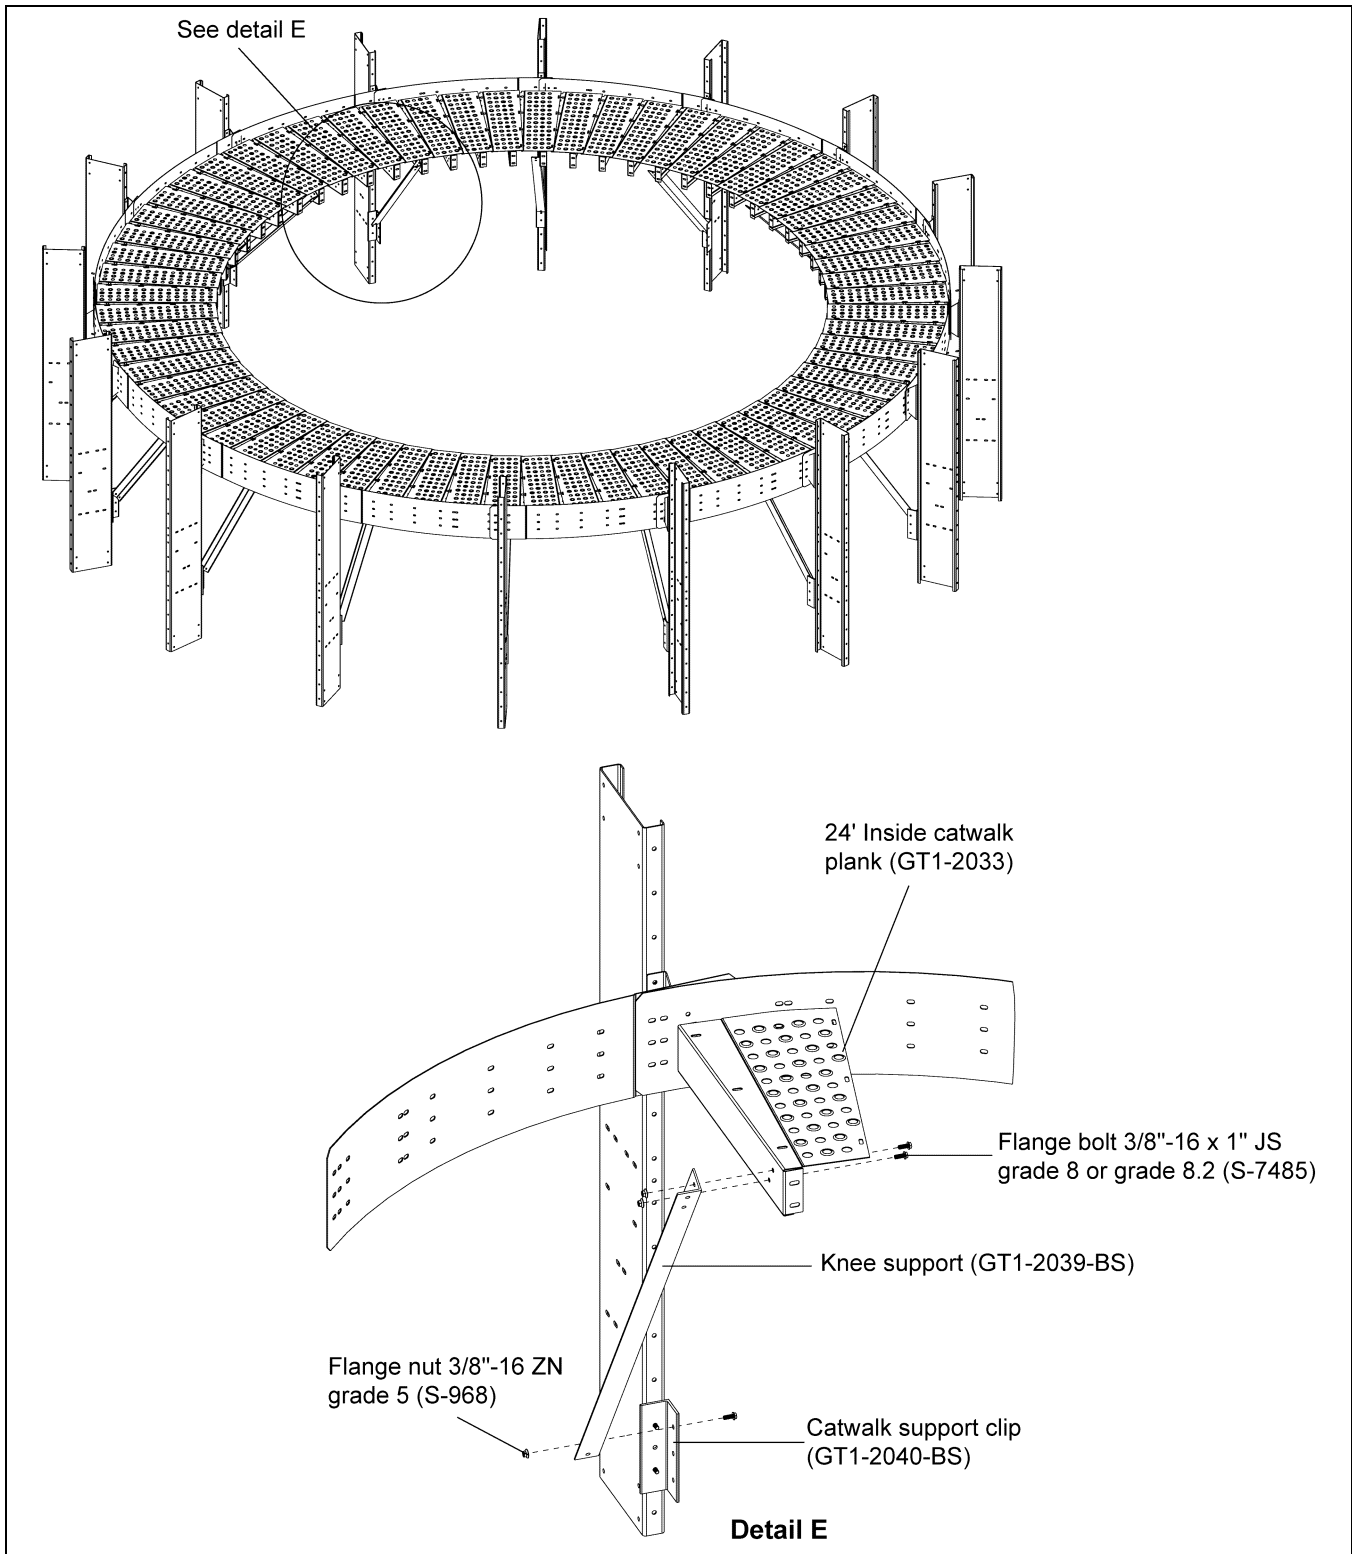

Figure 5I
1. Install the knee support (GT1-2039-BS) around the dryer between the catwalk support clips (GT1-2040-BS) and planks (GT1-2033) using 3/8"-16 x 1" JS grade 8 or grade 8.2 bolts (S-7485) and 3/8"-16 ZN grade 5 nuts (S-968). (See Figure 5I.)